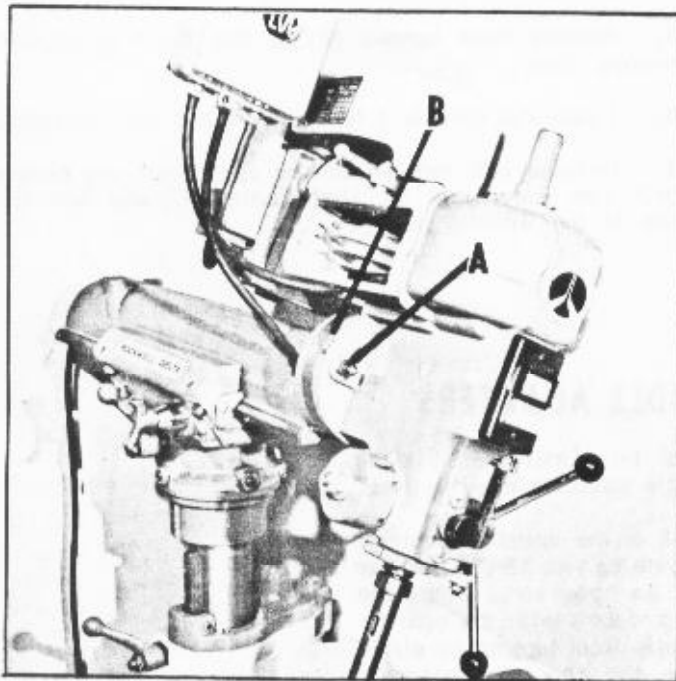

Fig. 15
The drill head can be tilted up to 45 degrees right and left. To tilt the head, slightly loosen the two locks, one of which is shown at (A) Fig. 15, tilt the head to the desired position and tighten the two locks (A). An easy to read head tilt scale (B) and pointer permits setting of head at exact angle desired. IMPORTANT: THE HEAD MUST BE SECURELY HELD WHEN LOOSENING THE TWO LOCKS IN ORDER THAT IT WILL NOT SUDDENLY TILT CAUSING DAMAGE TO THE MACHINE OR INJURY TO YOURSELF.